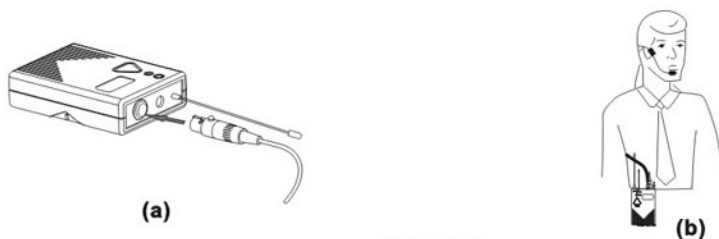

FIGURE 9
2.Headset Microphone connection(Figure 9).